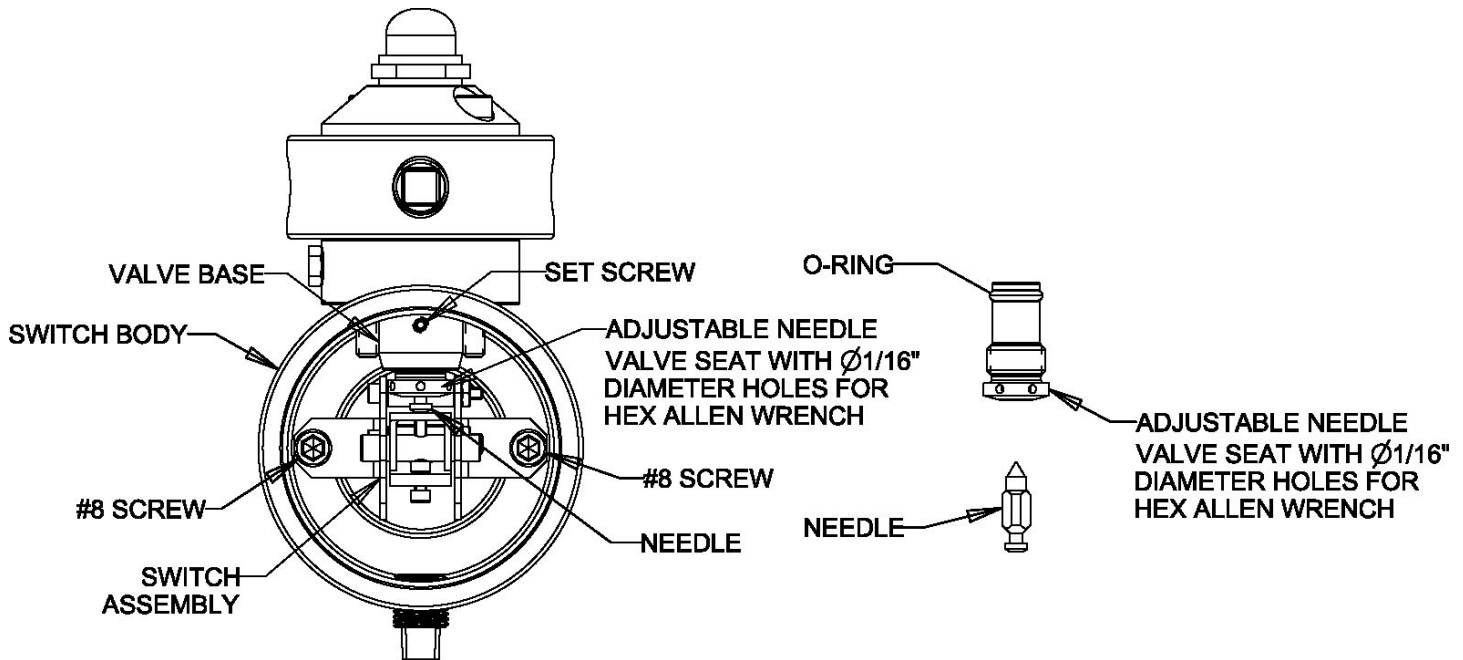

Figure 1
- 2.) Remove the Switch Enclosure Cover on the end of the Switch Body. The Switch Assembly will be visible as in Figure 1.